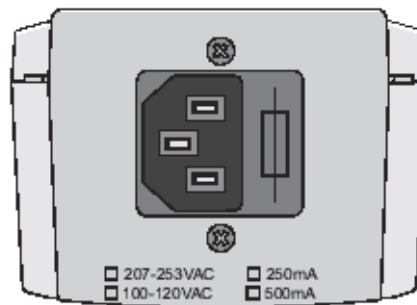

Figure 2-6: Indoor Unit Bottom Panel
4. After connecting the outdoor unit to the indoor unit using the Indoor-to-Outdoor cable, connect the power cord to the unit's AC socket, located on the bottom panel shown in Figure 2-6. Connect the other end of the power cord to the AC mains after verifying that the unit is rated for the voltage in the country of use; the AC rating is indicated on the bottom panel of the Indoor unit.